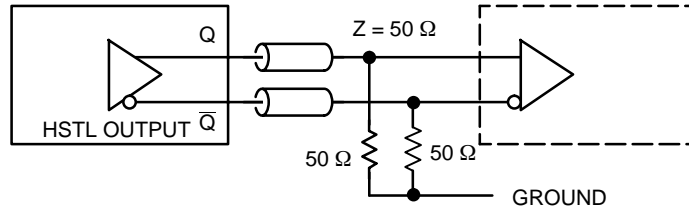

Figure 6. HSTL Output Termination and AC Test Reference
4. All outputs loaded with 50 Ω to GND (See Figure 6).
5. Measured with 750 mV (LVPECL) source or 1 V (HSTL) source, 50% duty cycle clock source. All outputs loaded with 50 Ω to ground (See Figure 6).